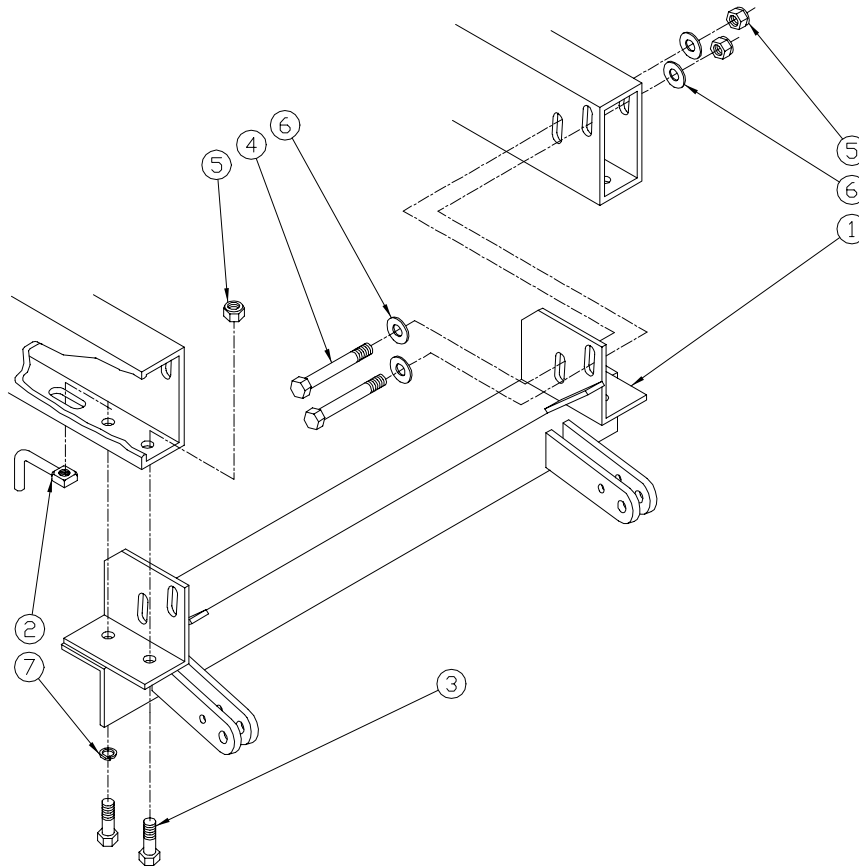

Figure 1
4. Position baseplate between frame beams. (See Fig. 1) Bolt the baseplate to the frame using the four 1/2" x 4" bolts. If the baseplate does not fit snugly between the beams, you will need to put washers between the baseplate and the frame beam on one or both sides. Two 1/2" flat washers have been provided for this purpose. If more washers are needed you can purchase them at any hardware store. These bolts will be removed later so tighten them only enough to hold the baseplate in position.